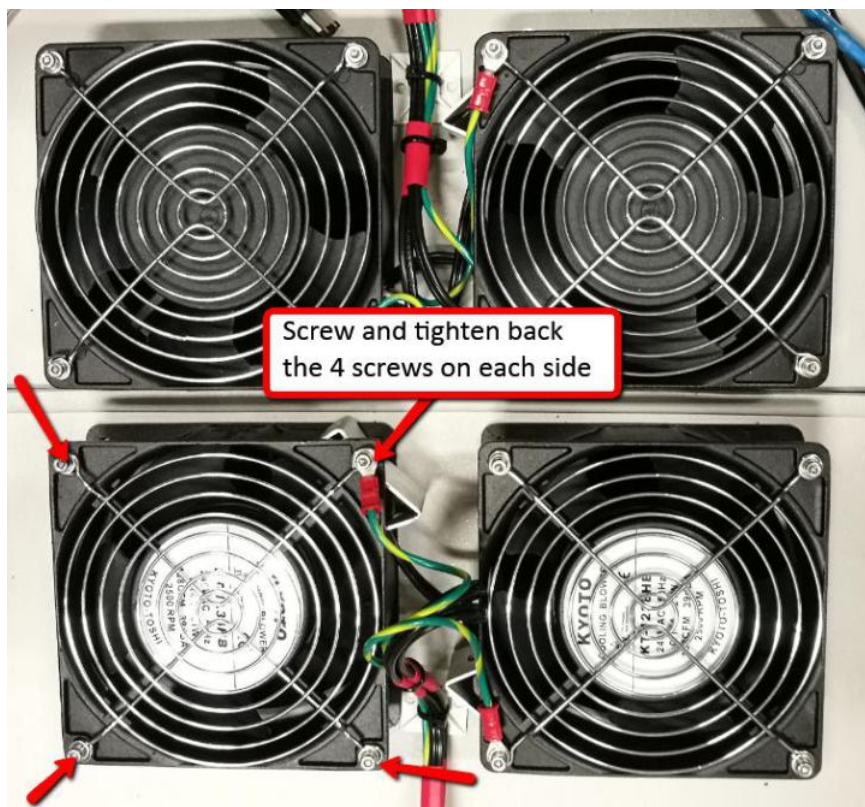

Figure 8 X-ray camera fan replacement
5. Tighten 4 x Screws as shown in Figure 8.